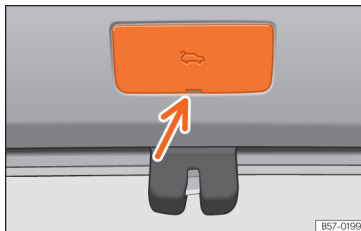

Fig. 10 Luggage compartment: access to manual release.
- Remove the cover using the key blade as a lever »» Fig. 10.